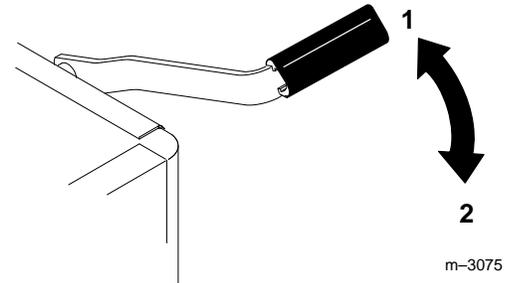

Figure 2
2. Pull up on the parking brake lever, until it goes overcenter, to set the parking brake (Fig. 2). The parking brake lever should stay firmly in the “ENGAGED” position.
1. Push forward on the parking brake lever (Fig. 2). The parking brake is “DISENGAGED” and the lever rests against the front of the opening.